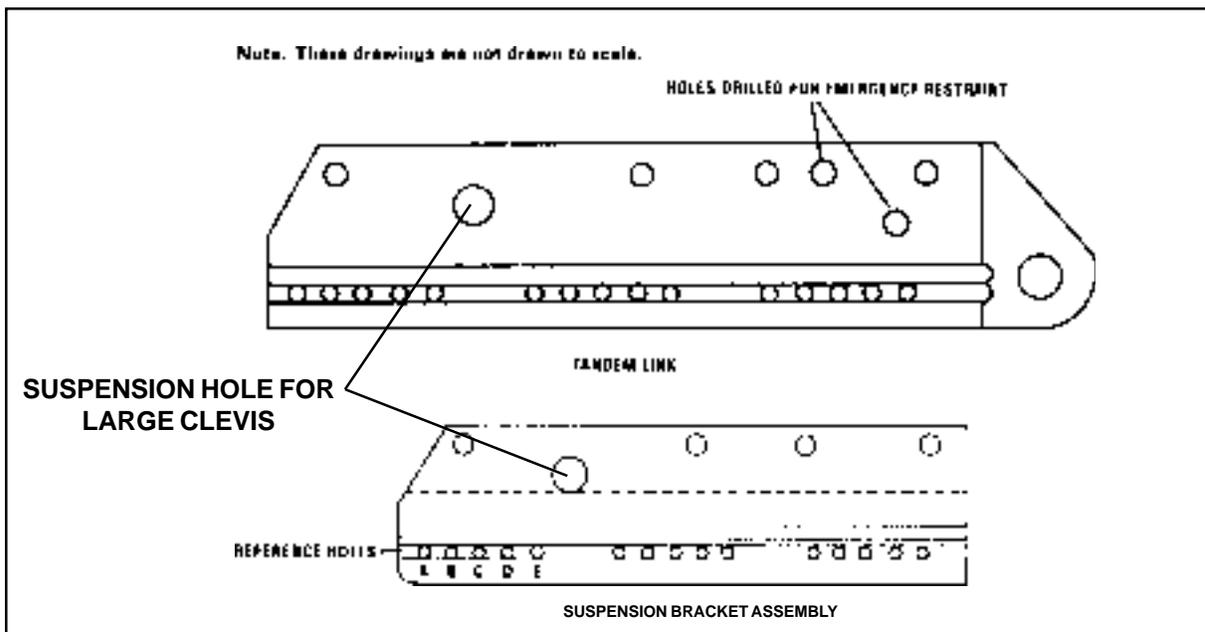
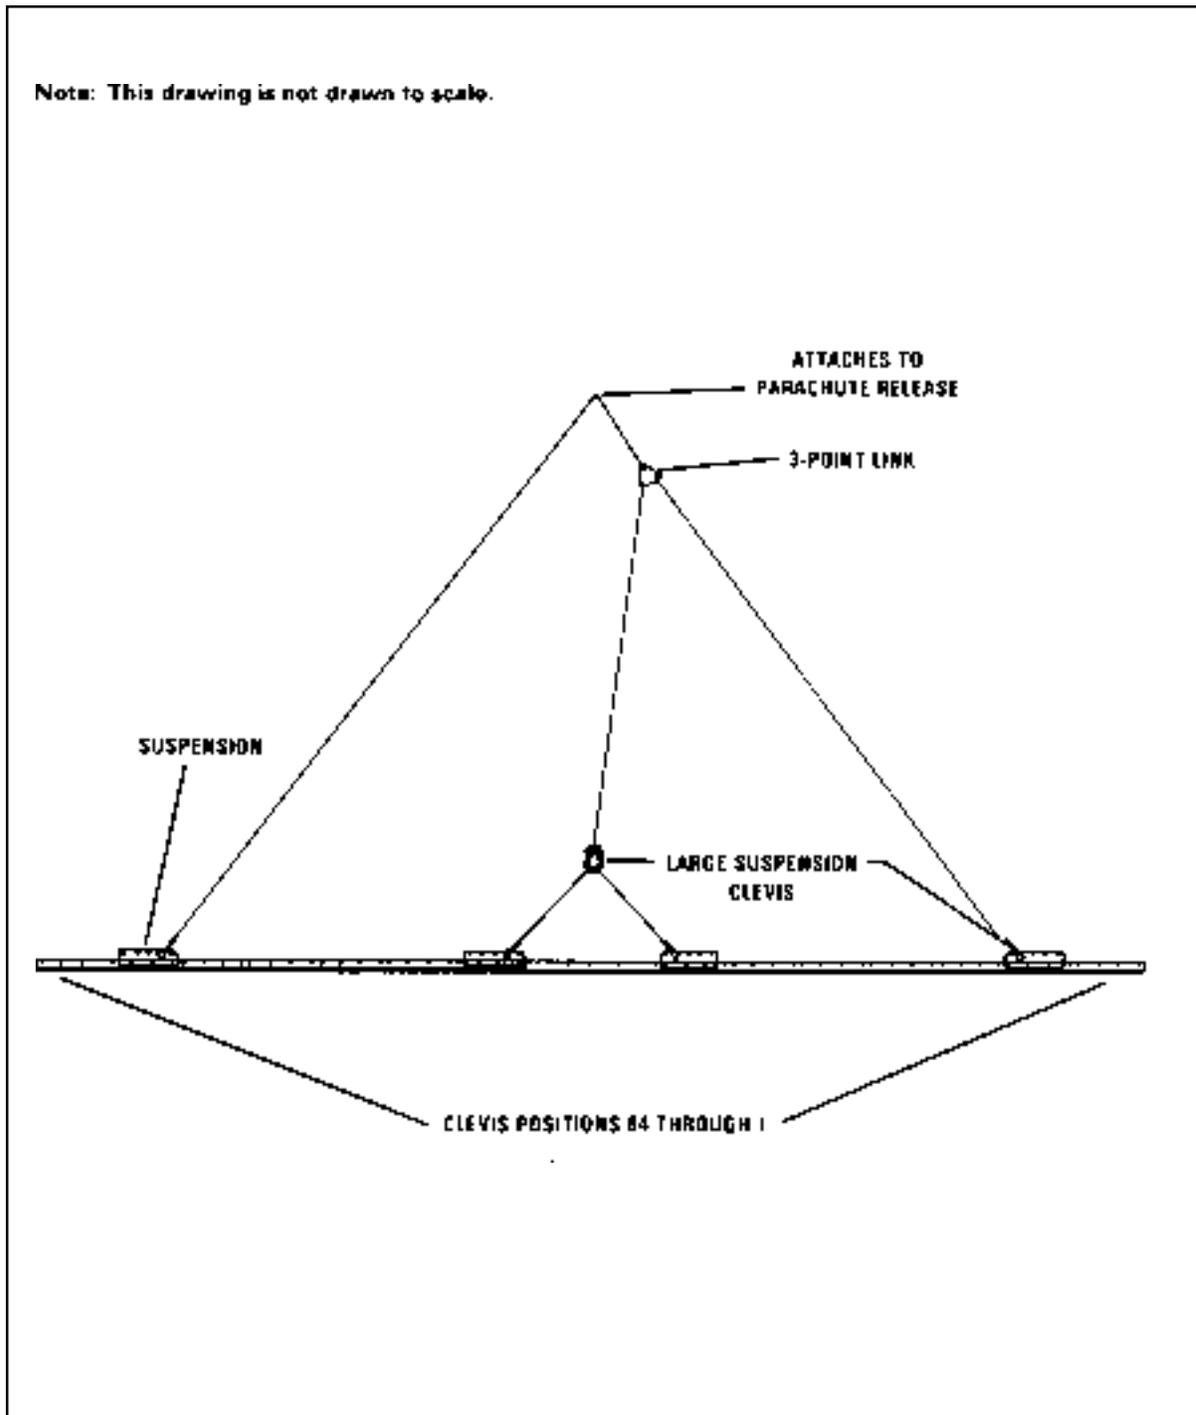

Figure 3-1. Tandem Link and Suspension Bracket Assembly
Figure 3-4. Centerline Suspension System Shown on a 32-Foot Platform
*Type V Platform.* The suspension points for a platform-suspended load on a type V platform are the suspension bracket assembly holes. The emergency aft restraint holes are provided in the tandem link only. The suspension bracket assembly as shown in Figure 3-1, can be positioned at various points along a platform rail.
However, their positioning is limited by the fact that the bolt hole configuration of the platform side rails only allows the suspension bracket assembly to be secured within the 2-foot panels of the platform. Every panel assembly has a four-bolt configuration on each side. These four bolts are designated as platform clevis points. The suspension bracket assembly can be positioned within the bolt configuration of a panel as shown in Figure 3-2. A reference hole "B" is used to show the appropriate position of the suspension bracket assembly as shown in Figures 3-1 and 3-2. The direction of the suspension bracket assembly is determined by matching reference hole "B" with the prescribed platform clevis number and placing the suspension bracket assembly in the direction where it can be secured within the same panel bolt configuration. Figure 3-3 shows the suspension bracket assemblies installed. Table 3-1 shows the maximum allowable suspended weights for the four-point and centerline suspension systems. Figure 3-4 details the centerline suspension system.
<p>The centerline suspension system consists of eight suspension bracket assemblies, four of which form a bridge on each side of the platform in the center and six suspension slings. Figure 3-4 details the configuration. The following table lists the maximum suspended weights along with the position of the suspension bracket assemblies on the platform rails.</p>